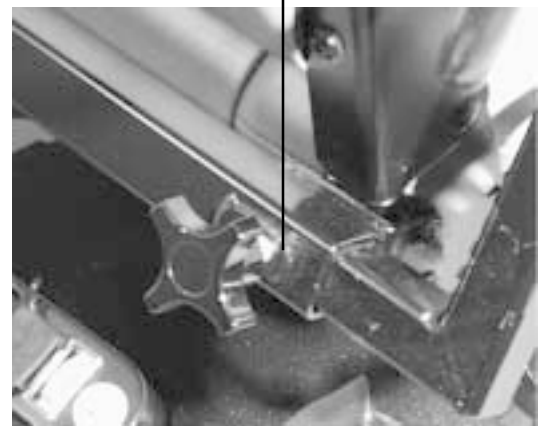

Figure 8. Armrest Width
1. Locate the two knobs on the armrest receiver bracket. See figure 8.